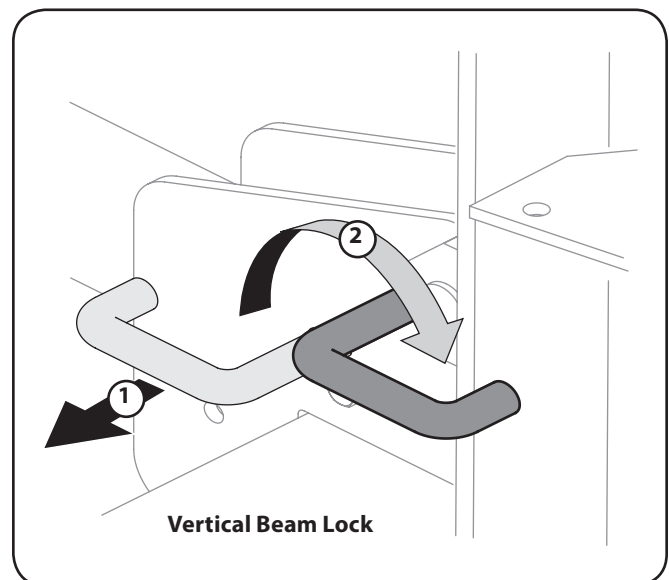

Figure 5-2
- b. To lock the beam in the vertical position, pull out on the vertical beam lock and rotate it to secure the beam. See Figure 5-2.